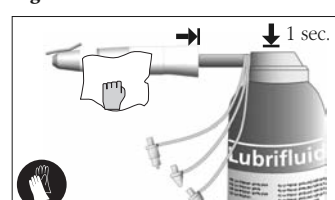

fig. 7
- Insert the spray tip in the back of the instrument handle (fig. 7).